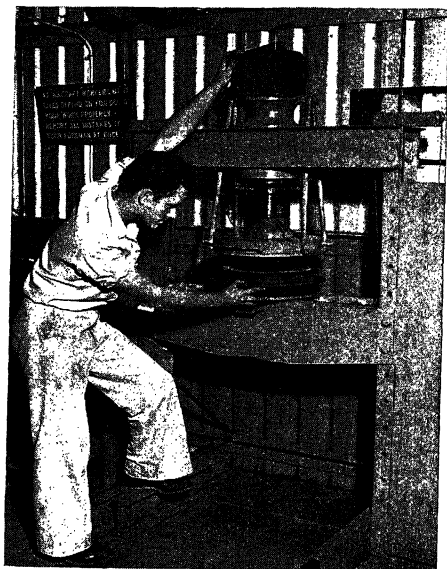
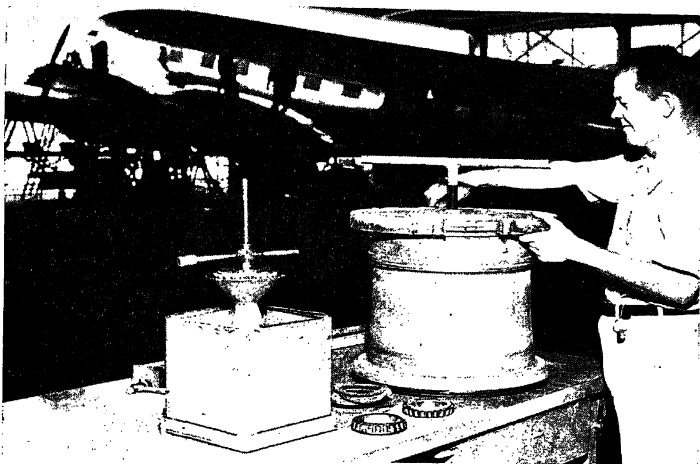

FIG. 1.—Hydraulic press to straighten brake-drum flanges.
FIG. 2.—Two handy pieces of service equipment—a puller and a grease gun.
**Brake Drums.**—Figure 1 shows a hydraulic press for straightening flanges on steel brake drums. At the right of Fig. 2 is a special puller for removing cast-iron brake drums from the landing gear wheels; to the left is a special grease gun for forcing grease into the ball bearings used in the landing wheels.